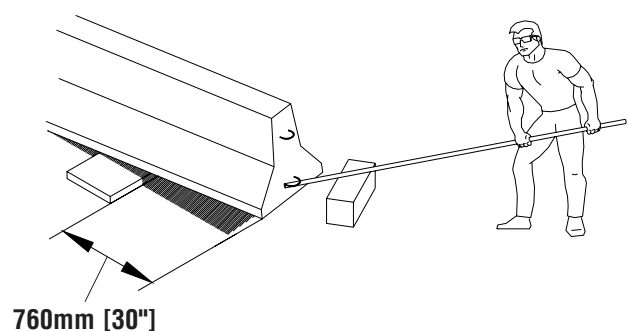

Figure 1
Step 1: Lifting the PCMB (see Figure 1)
Begin the PCMB installation by lifting the end of the PCMB section. This can be accomplished by using a large block of wood and a 2 m [6'] long pry bar. Place the block of wood near the bottom loop of the PCMB and use it as a fulcrum. Then place one end of the pry bar under the bottom loop of the PCMB and push down to lift the PCMB as shown in Figure 1. One person can lift the end of a 3m [10'] long section of PCMB.